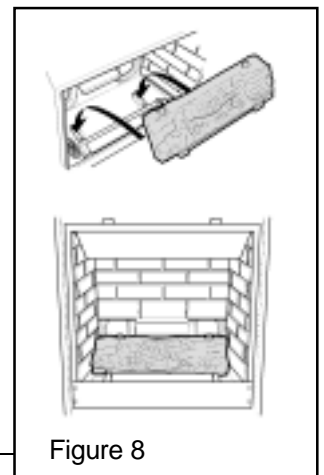

Figure 8
1. Place the base log on the supports in the firebox and against the firebox back. See figure 8.